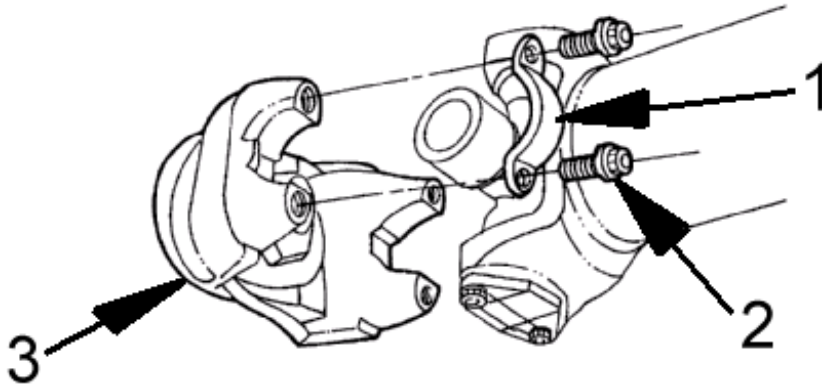

Figure 1 Remove / Install Bearing Caps
3. Remove the four bearing strap mounting bolts (Figure 1) from the forward rear tandem axle output yoke.